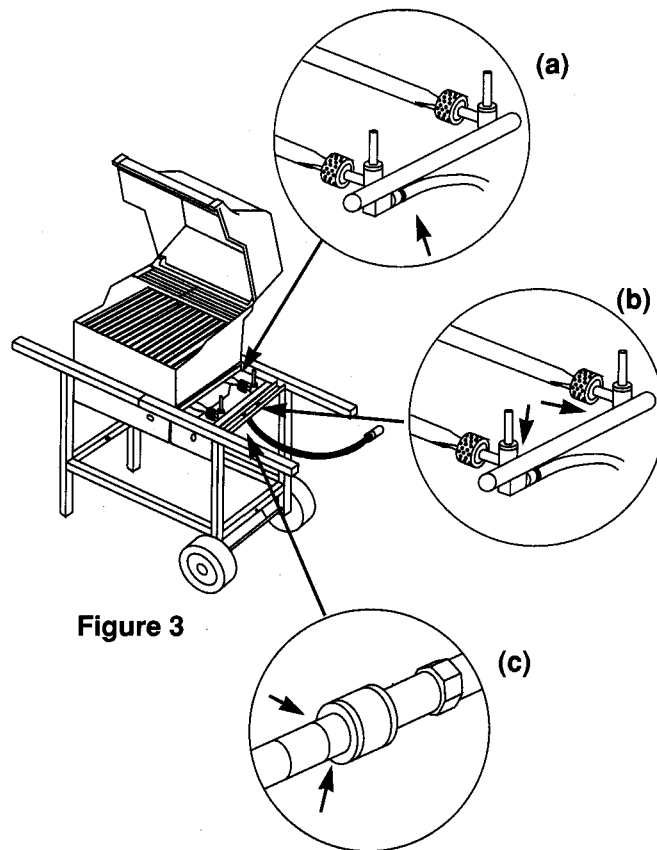

Figure 3
a) Hose to manifold connections. Figure 3 (a).
WARNING: If there is a leak at the hose to manifold connection, Figure 3 (a), retighten the hose fitting with a wrench and recheck for leaks with soap and water solution.
b) Valves to manifold connection. Figure 3 (b).
c) The hose to quick disconnect connection. Figure 3 (c).
WARNING: If there is a leak at the valves to manifold connection, Figure 3 (b), or quick disconnect connections, Figure 3 (c), turn OFF the gas. **DO NOT OPERATE THE BARBECUE.** Contact your dealer.